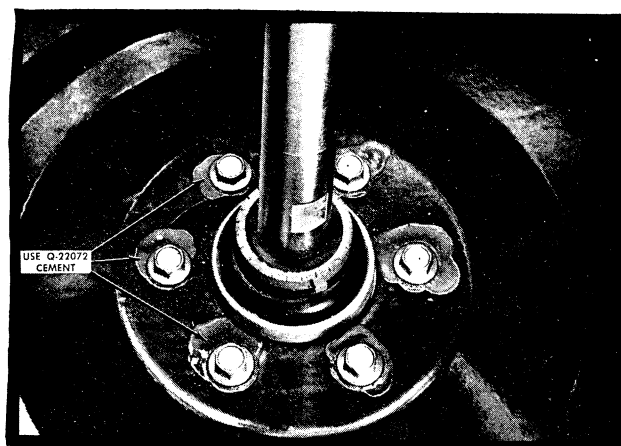

Figure 82
- l. Remove the six cap screws inside bottom of tub, Figure 82.